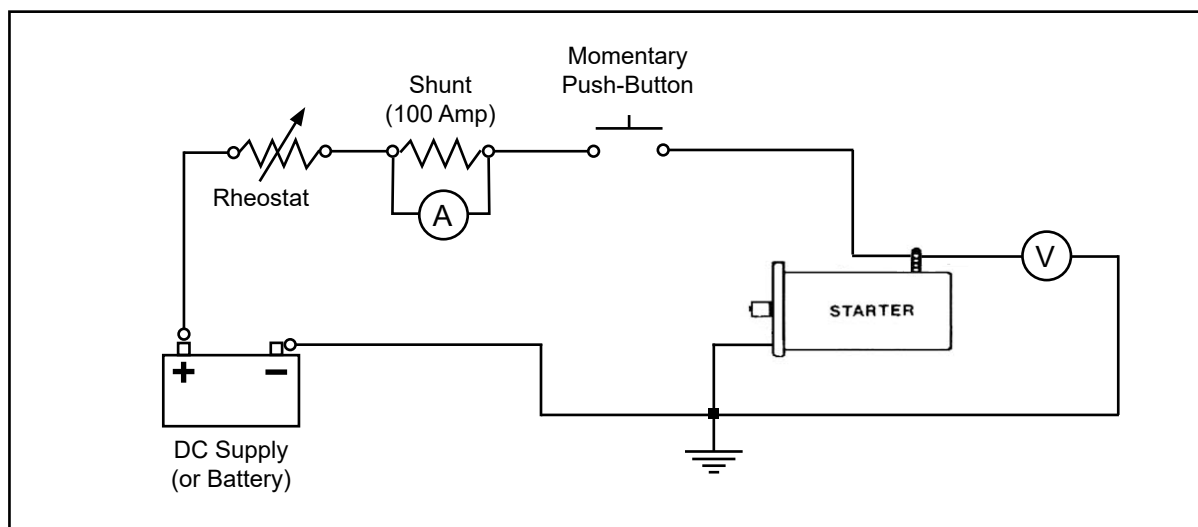

Figure 5-1 - Starter Test Set-up
- (1) Fabricate the test set-up as shown in Figure 5-1.